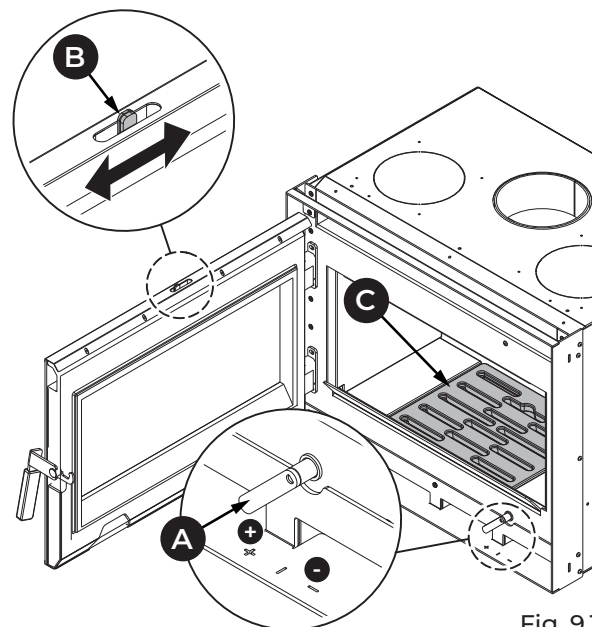

Fig. 9.1
- Open the primary air regulator (A) and the glass cleaning regulator (B) completely (+) (Fig. 9.1).
- Carefully place the pieces of wood in fire box grate (C) (Fig. 9.1).
- Keep the combustion air regulator (A) and the glass cleaning regulator (B) open (+) to ensure a high, bright flame.